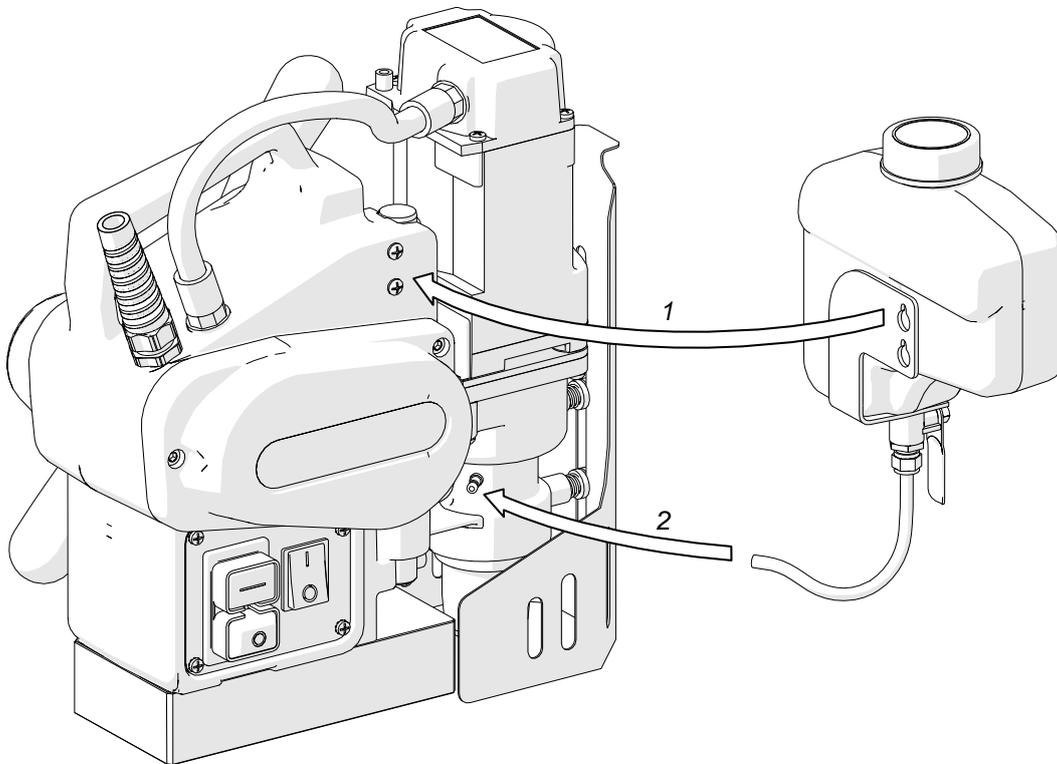

Fig. 5. Mounting the cooling system bottle
Hang the cooling system bottle on the screws (1, Fig. 5) and attach the bottle hose to the coupling (2). Dismount in reverse order.